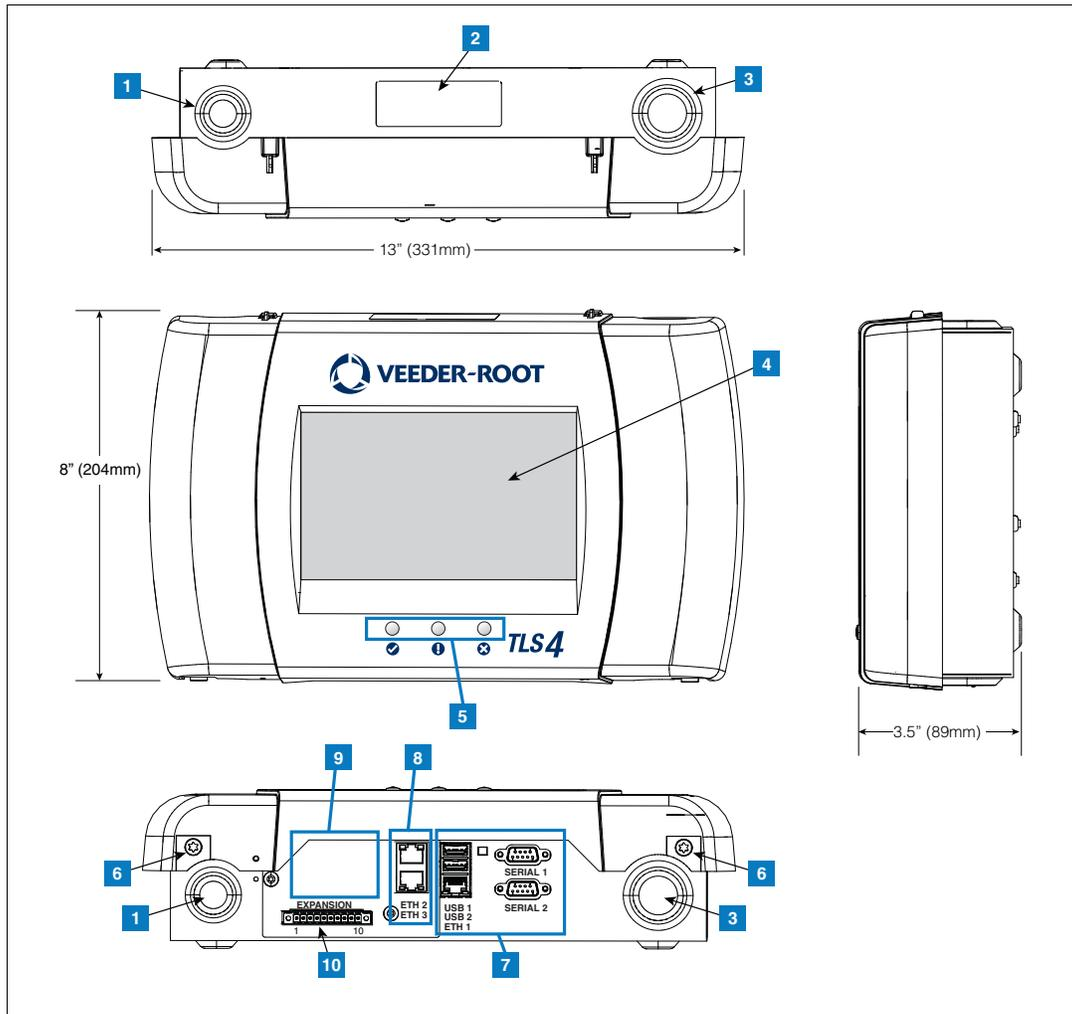
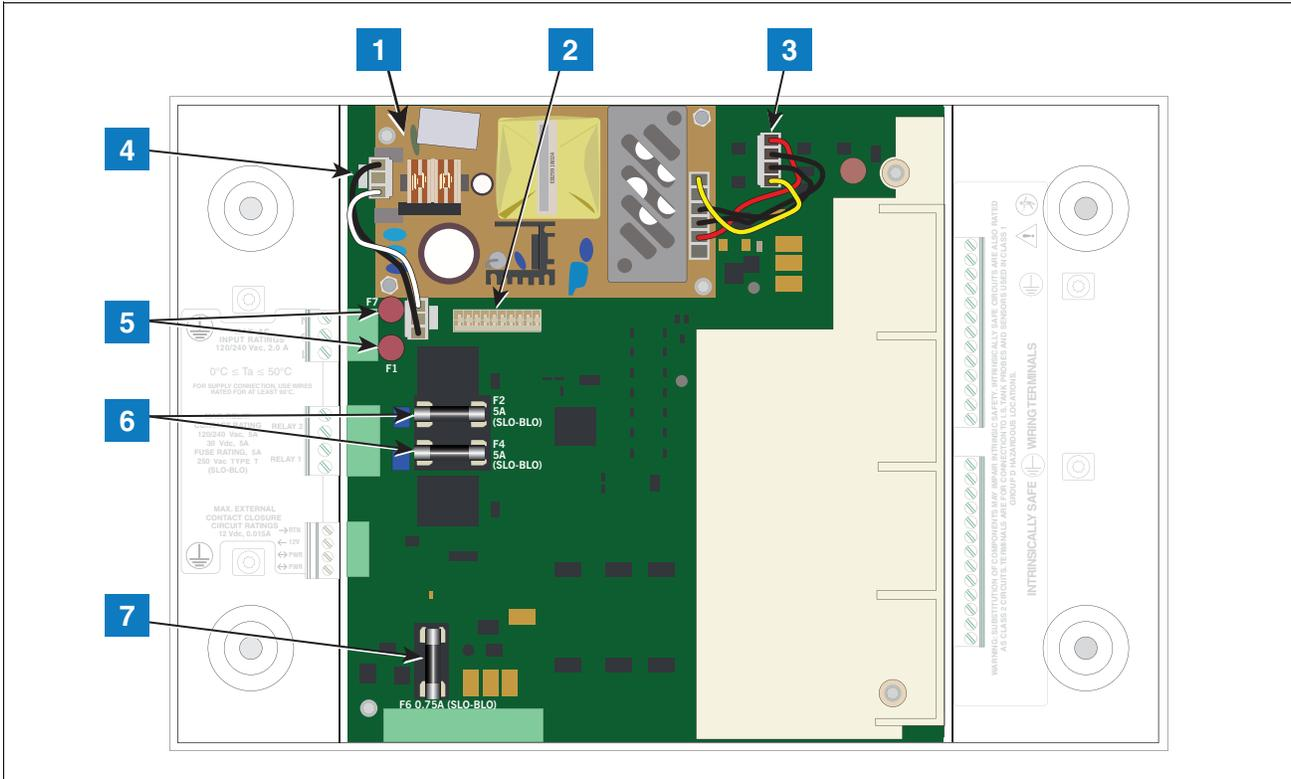

Figure 1. TLS4/8601 Series Console - Dimensions
Figure 4. Component Locations USIOM Board
Figure 1 through Figure 4 show assembly and component locations referenced in this manual.
LEGEND FOR NUMBERED BOXES IN Figure 1
LEGEND FOR NUMBERED BOXES IN Figure 4
2. Remove the two T15 Torx shoulder screws under the front cover of the console (Item 6 in Figure 1). Tilt the bottom of the cover out as you lift it off of the two hooks in the top of the console's housing.